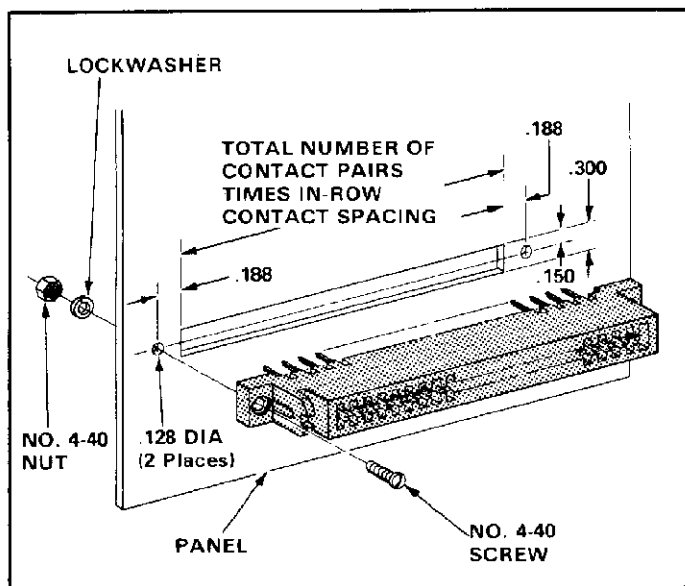

Fig. 6
1. Make a layout on the panel using the dimensions provided in Figure 6.
2. Position the connector on the FRONT of the panel and secure it with No. 4-40 screws, lockwashers, and nuts. See Figure 6.